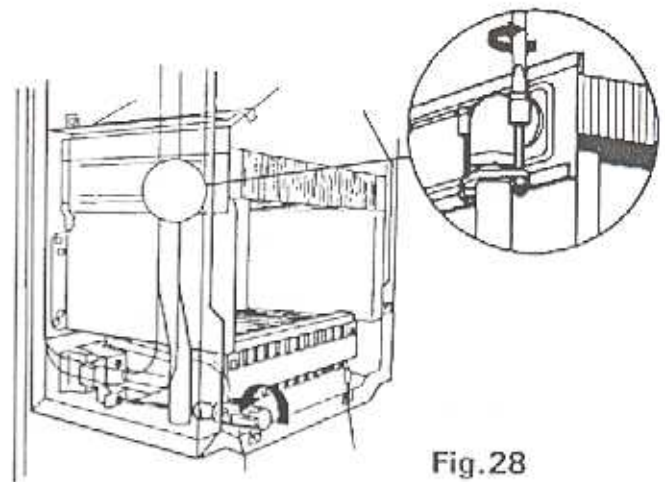

Fig.28
#### 8.6 Main Burner and/or Spark and Sensing Electrodes Part No 5853 Refer to fig 28&29
##### 8.6.4 Remove four burner retaining screws (see fig.28) ease burner forward and rest on chamber base.
- 8.8.8 Disconnect upper flanges by removing 2 screws on each flange (Fig.28). Undo unions for the flow and return pipes below the room sealed chamber, lower the pipes and slide out main heat exchanger, taking care not to damage insulation panels. Avoid spillage of water on boiler electrics.